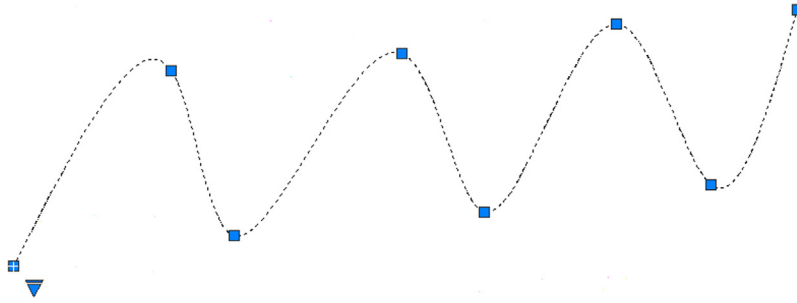

FIGURE 11.15
- Step 3.** Click on another point somewhere on the screen, in an up and down wave pattern, as seen in Figure 11.15.
- Step 4.** Click on a few more points in a similar wave pattern. AutoCAD keeps saying the same thing as in Step 3. Continue clicking several more times (refer again to Figure 11.15). When done, simply press Enter.
This is your basic “out-of-the-box” spline. Notice how, as you click on points, AutoCAD fits a smooth curve that best approximates the path. Each grip in Figure 11.15 represents a click of the mouse, a control point. You can manipulate the positions of these grip points in the standard manner, with the spline following suit. This makes the spline a very flexible tool, adjustable to the exact demands of the designer. Try activating the grips and moving them around.